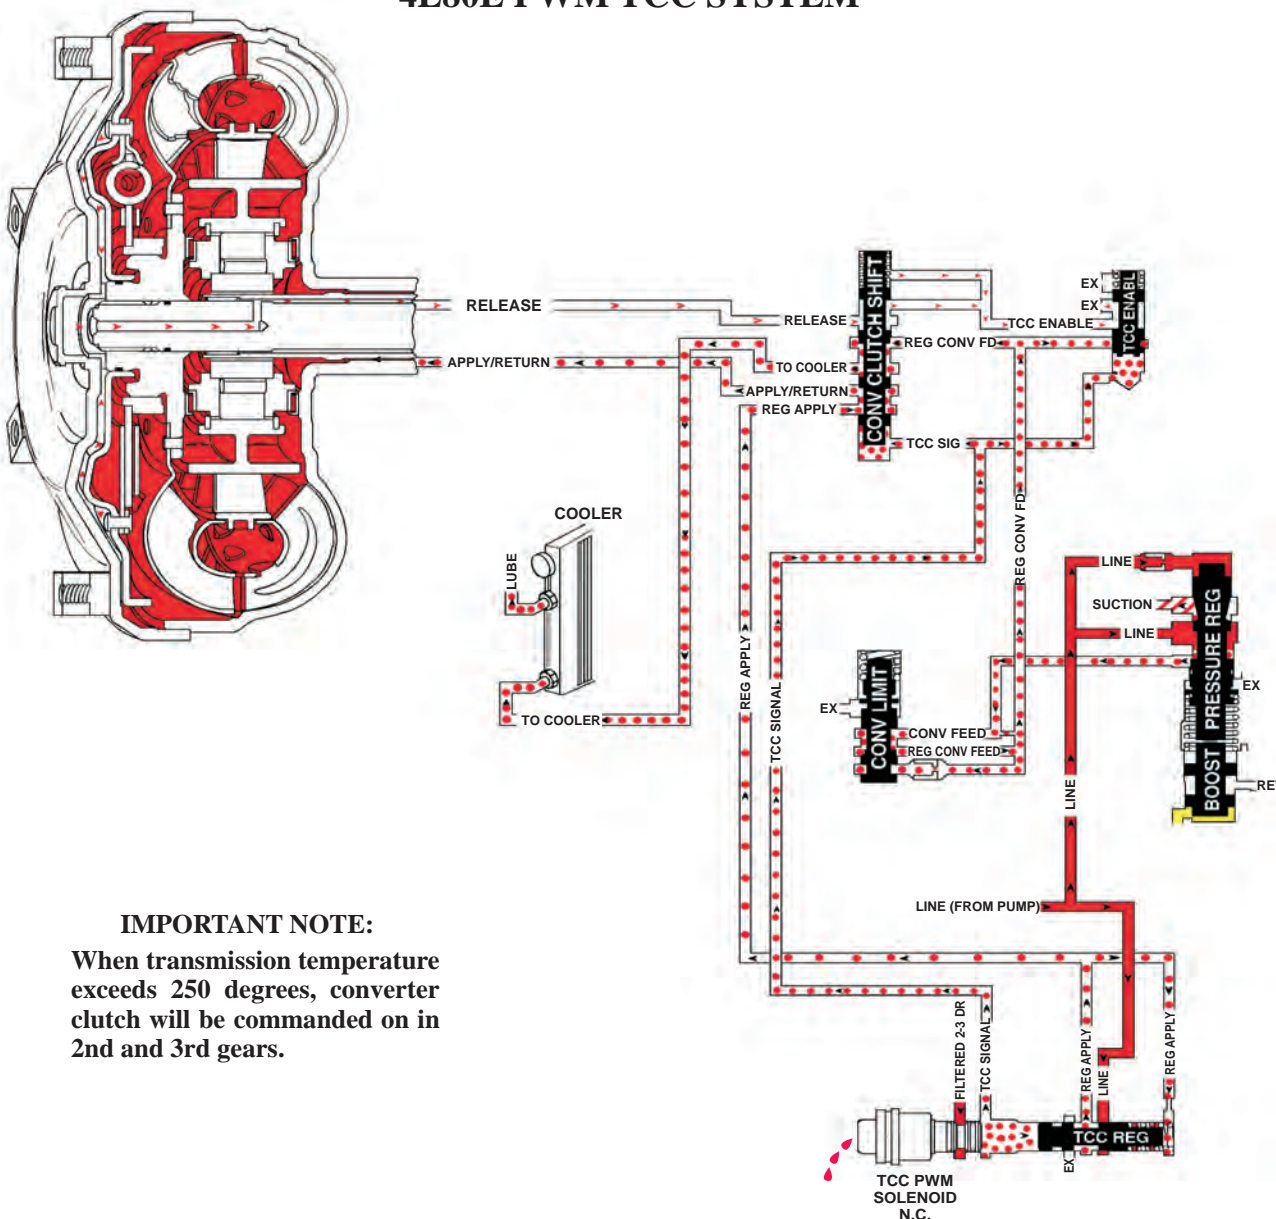

Figure 106
- The 4L80E PWM TCC/ECCC system in the hydraulic schematic in Figure 106 shown below shows the flow of the TCC apply and release circuits.